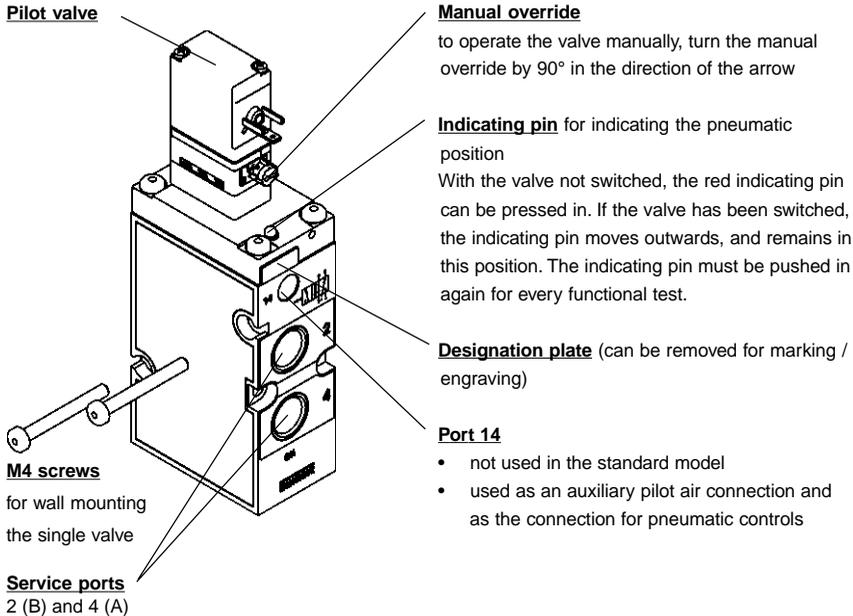

Figure 3: *Mounting single valve
4.5 Mounting single valves (Fig. 3)